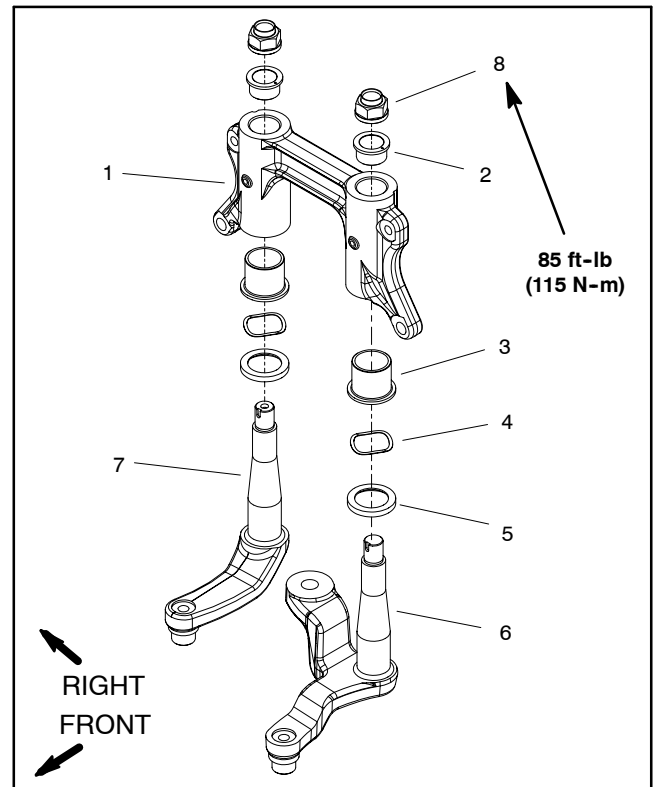

Figure 17
A. If flange bushings (items 2 and 3 in Fig. 17) were removed from pivot mount, make sure that new bushings are pressed fully into the pivot mount.
B. Torque spindle nut (item 8 in Fig. 17) to **85 ft-lb (115 N-m)**. Deform spindle nut into slot in idler arm or pitman arm after torquing nut.